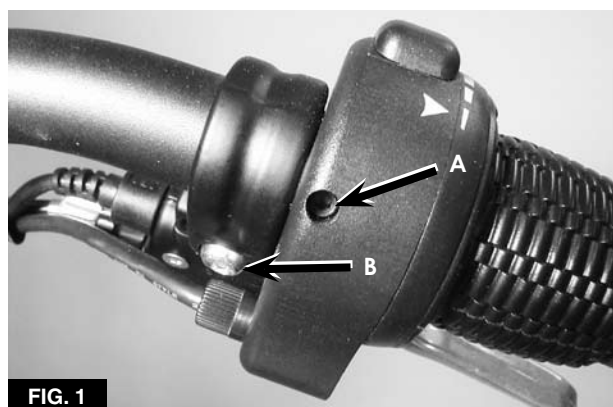
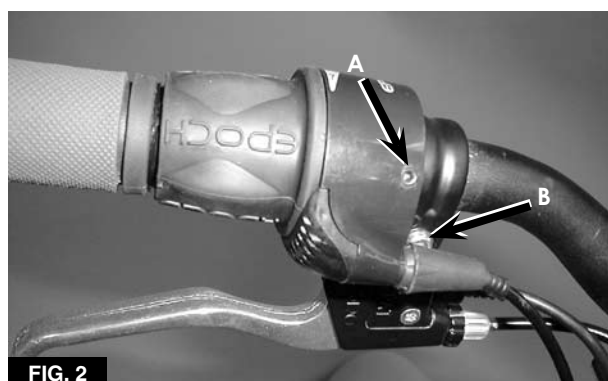

FIG. 1
FIG. 2
3. Loosen the throttle set screw (**A, Figure 1**), shifter set screw (**A, Figure 2**), the reflector clamp bolt, and the clamp bolt on each brake lever (**B, Figure 2**)
6. Loosen the throttle set screw (A, **Figure 1**), and remove the throttle from the handlebar end. If necessary, remove the handlebar (this chapter) to ease throttle removal.